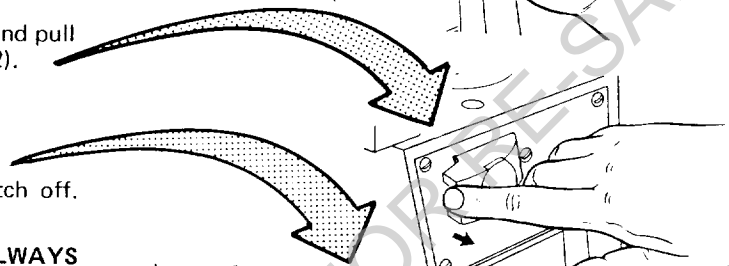

Figure 32
(2) Insert finger under end of switch lever and pull end out, to turn switch on. (See figure 32).